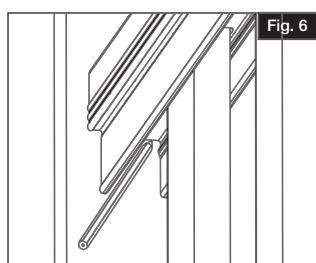

Fig. 6
- Screw bottom rail brackets into post (routed hole side of rail, facing upwards) with provided #10 x 1" screws (Fig. 6).
On each post, mark under top rail where flat area on rail meets the post. This will aid in the proper placement of the top rail brackets (Fig. 6).